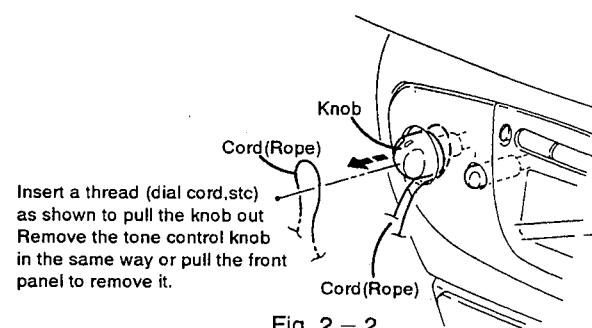

Fig. 2-2
- Pull out the volume and tone control knobs. Insert a dial rope, etc. in the clearance space to hook the knobs and pull them out (Fig. 2-2).